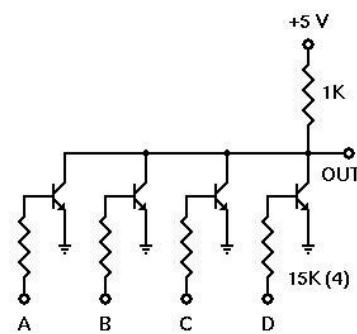
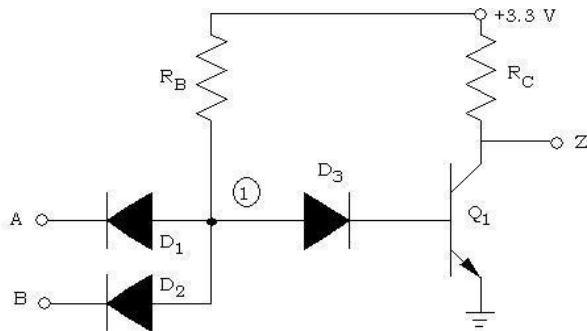

Fig .7: 4-input RTL Inverter
Fig 8: 2-input DTL NAND Gate
- (1) Set up the circuit for RTL inverter as shown in Fig.7.
- (2) For each input combination, find the output and place them in a Truth Table. The Truth Table should have two sets of outputs- one ideal and one experimental.
- (3) Repeat steps 1 and 2 for each circuit set-up from Fig.8 to Fig. 10.